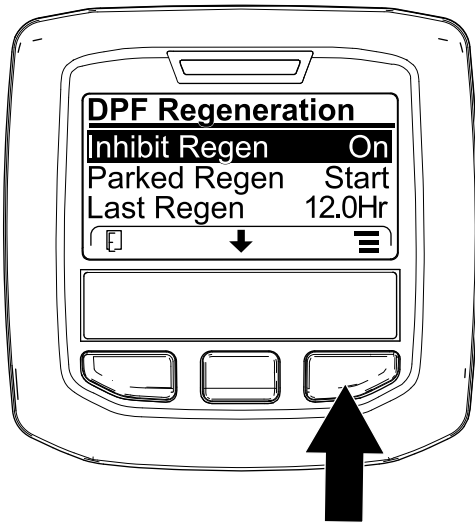
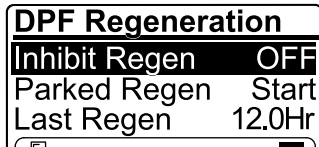

Figure 13
Figure 14
1. Access the DPF Regeneration menu, press the center button to scroll down to the INHIBIT REGEN option, and press the right button to select the Inhibit Regen entry (Figure 13).
- Press the right button to change the inhibit regeneration setting from On to Off (Figure 13) or from Off to On (Figure 14).